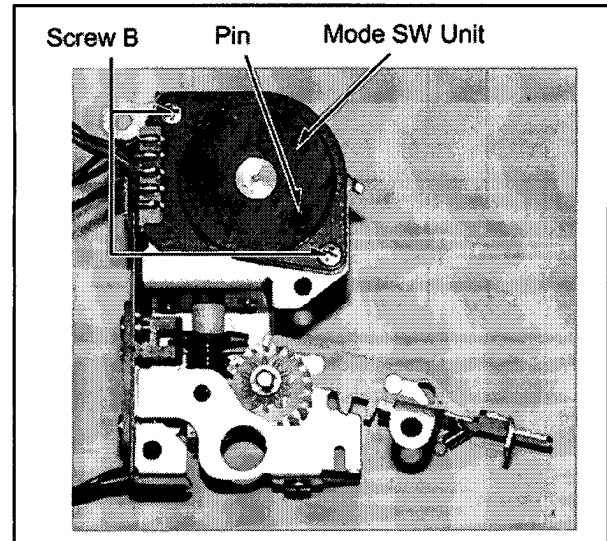

Fig.4-10-2
6. Unscrew the 2 screws B, and the Mode SW Unit. (Fig.4-10-2)